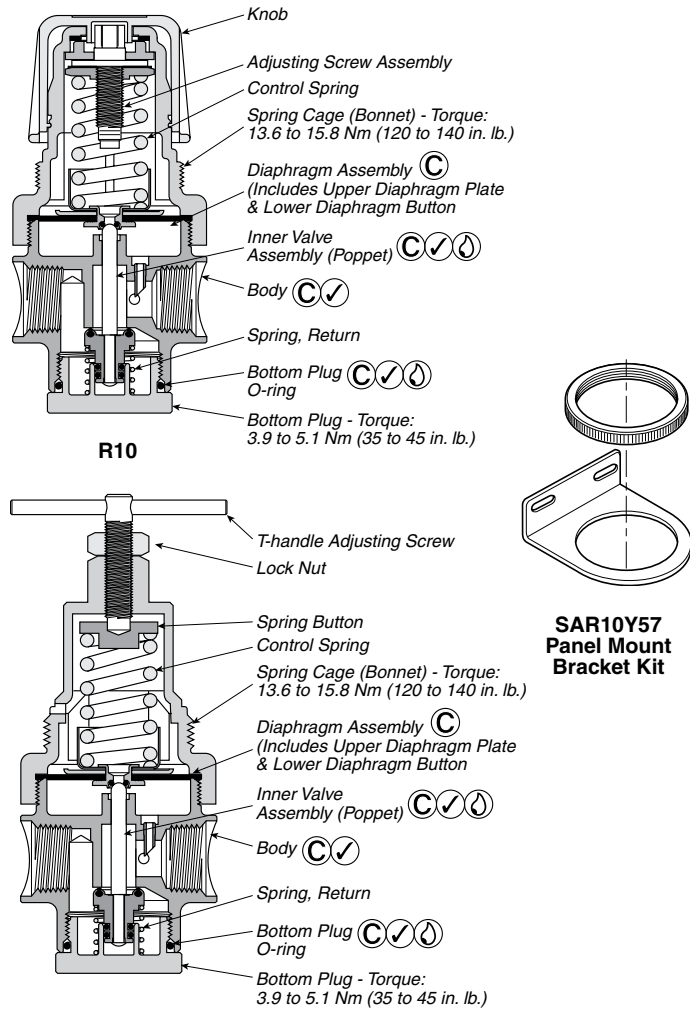

Figure 1
- ① Lightly grease with provided lubricant.
**Servicing Regulator - (Refer to Figure 1)**